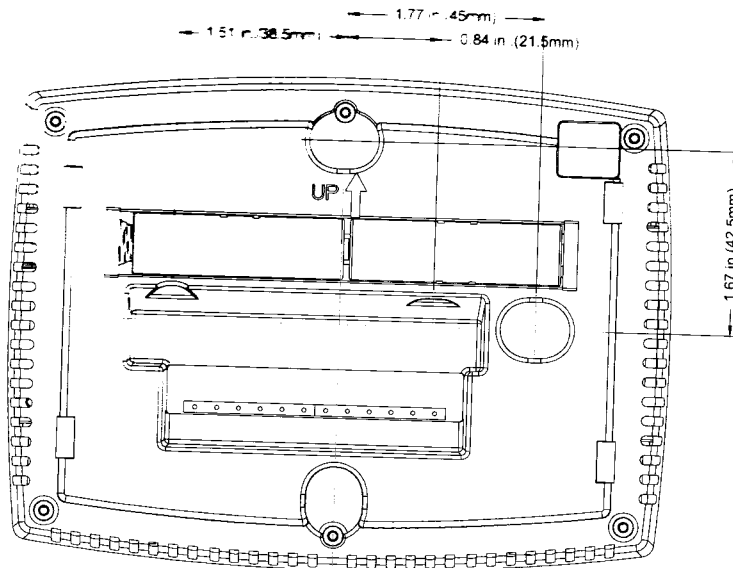

Fig. 2. Touchscreen Thermostat Back Case dimensions in inches. (mm).
2. A3101 Touchscreen Thermostat Back Case: see Fig. 2